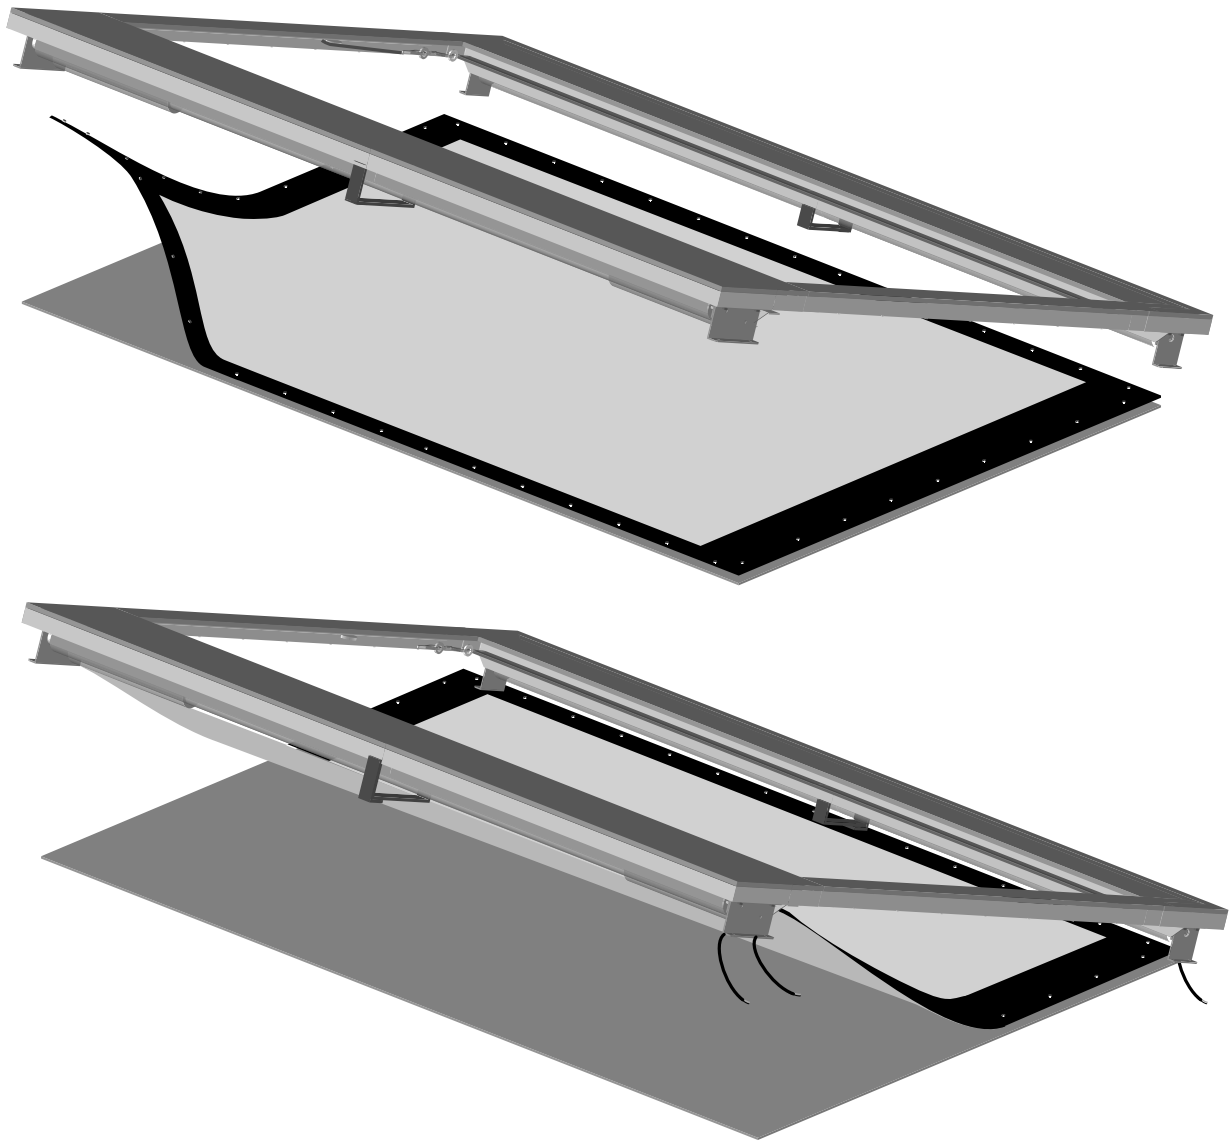

Figure 5: Snapping screen on to frame
2. While lifting the frame with one hand, snap the screen into the frame. Gently allow the screen to stretch onto the snaps. Do not jerk the material, as it can rip. See Figure 5. Attach the snaps on the top corners and top horizontal first, then lift the frame to a vertical position to finish attaching the rest of the snaps.